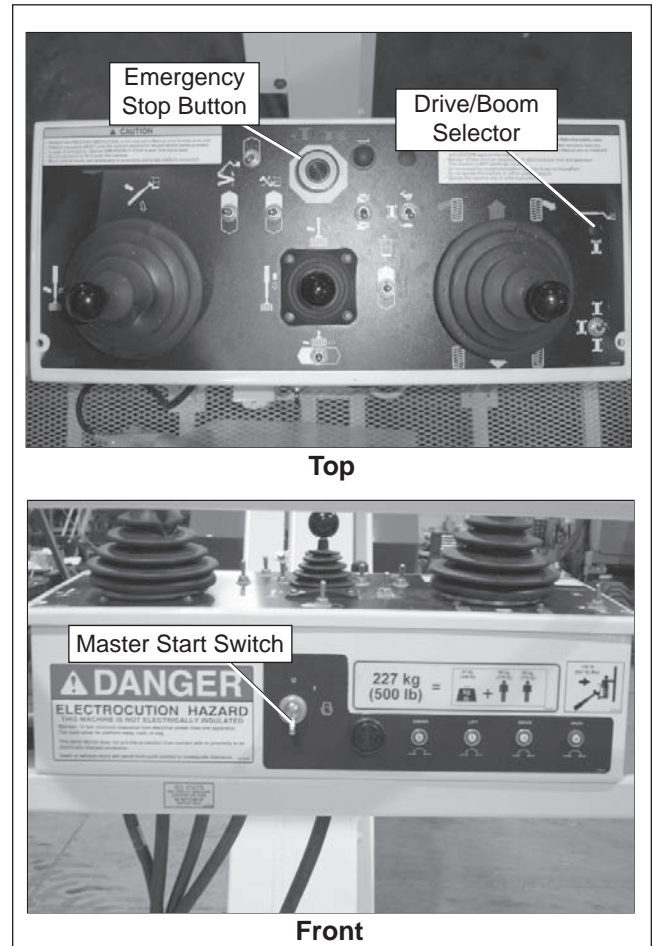

Figure 8.3 – Upper Controls
4. Pull the emergency stop outward (refer to Figure 8.3).
1. Place the drive/boom selector switch in the boom position (refer to Figure 8.3).